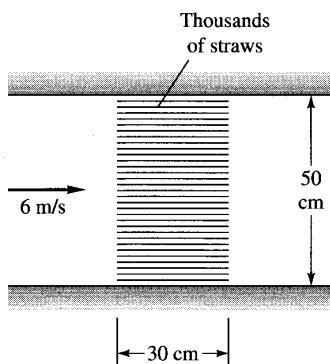

Fig. P6.28
**6.28** For straightening and smoothing an airflow in a 50-cm-diameter duct, the duct is packed with a “honeycomb” of thin straws of length 30 cm and diameter 4 mm, as in Fig. P6.28. The inlet flow is air at 110 kPa and 20°C, moving at an average velocity of 6 m/s. Estimate the pressure drop across the honeycomb.